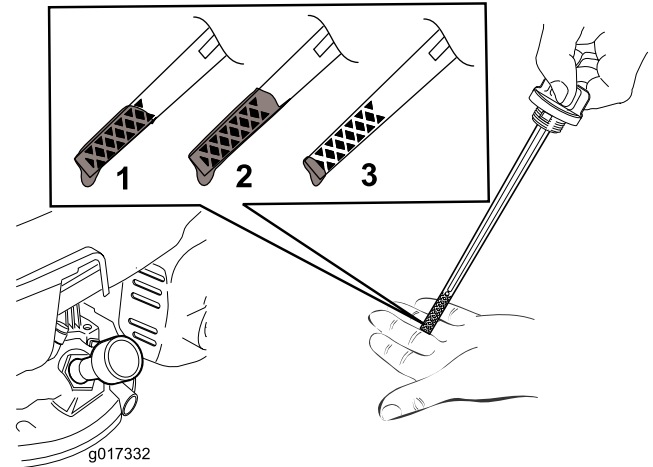

Figure 12
5. To determine the proper oil level on the dipstick, refer to Figure 12).
**Note:** Fill the engine crankcase with oil until the dipstick indicates that the engine oil level is correct as shown in Figure 12. If you overfill the engine with oil, remove the excess oil as directed in Changing the Engine Oil \(page 16\).